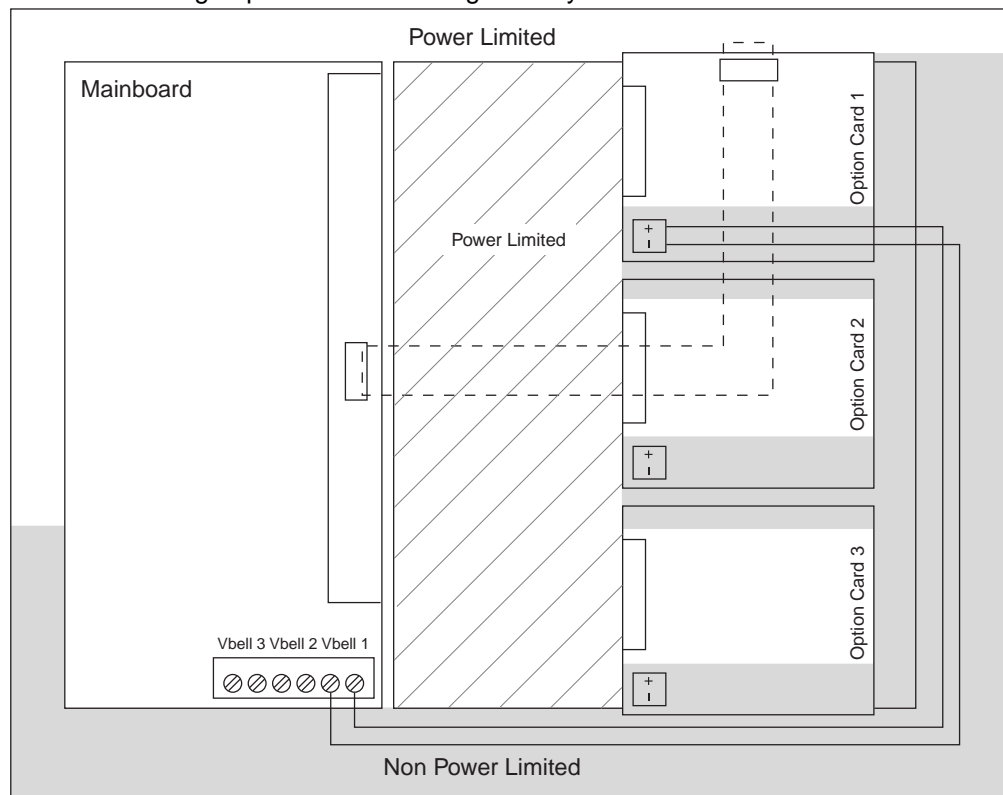
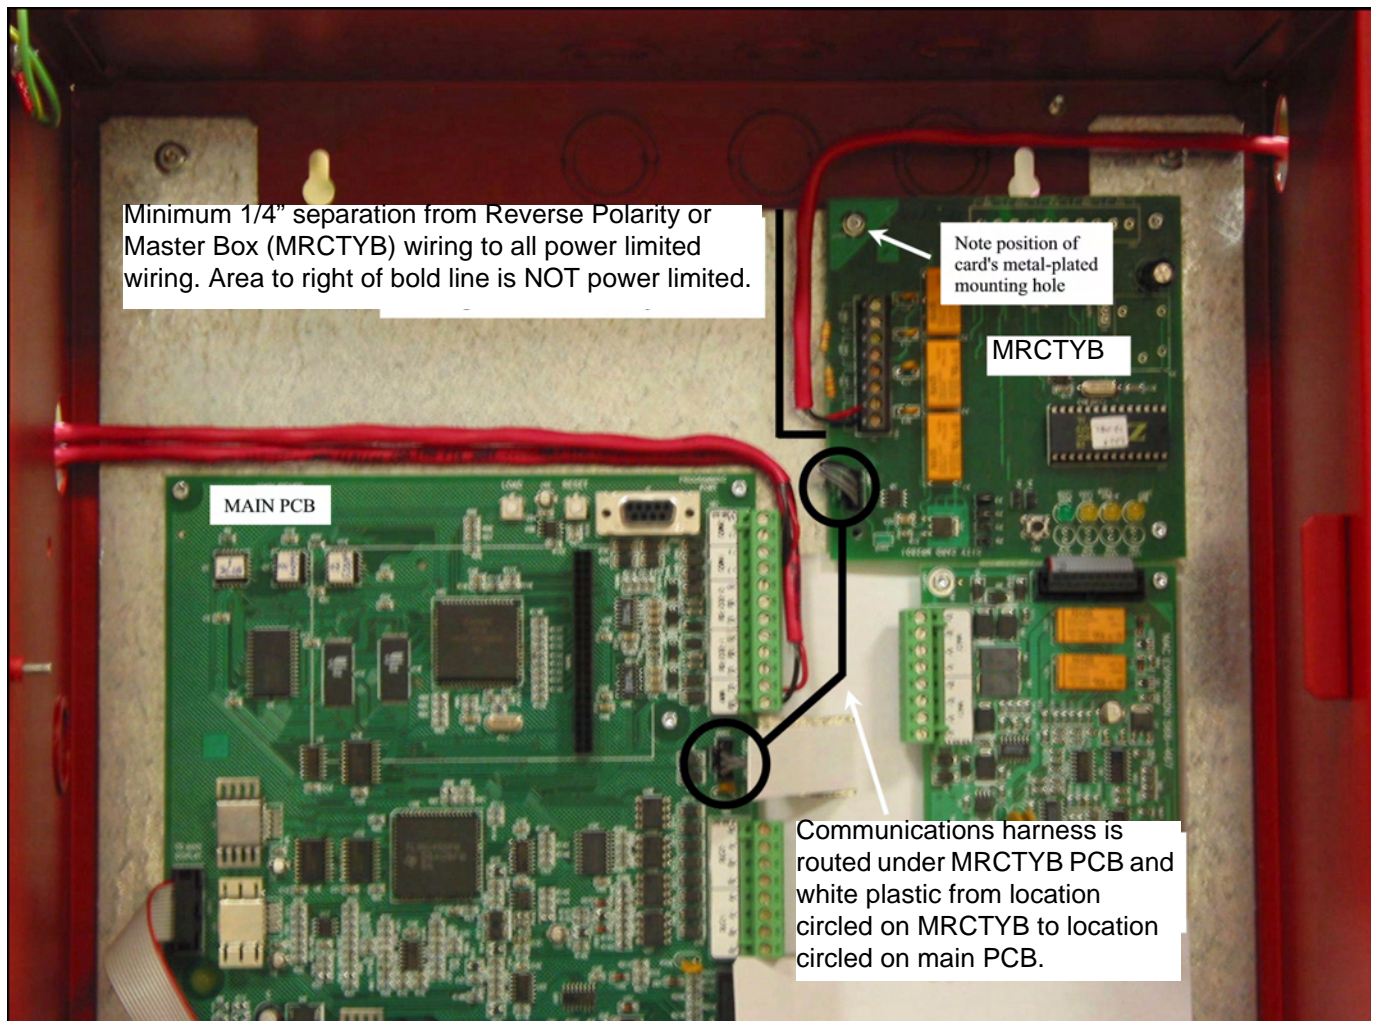

Figure 2: Power Limited Wiring Diagram
Figure 3: Power Limited Wiring, City Module
- Figure 2 shows the areas of the cabinet in which power limited/non-power limited wiring may be routed. Note that the location labeled Option Card 1 is not for the City (MRCTYB). There is a location above Option Card 1 that is used for this card. Figure 3 shows the routing of power limited wiring to a city module.